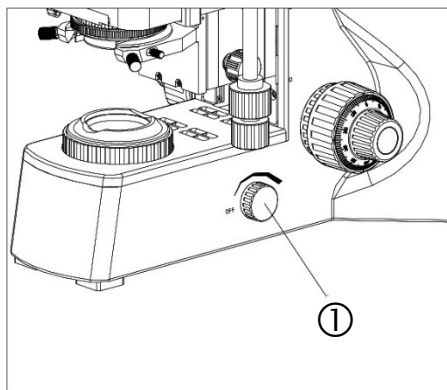

Fig. 10
Turn the transmitted light adjustment knob ① (Fig. 10) until the illumination is comfortable for observation.
Ensure the light adjustment knob ① (Fig. 10) on the right side of the base of the stand is turned to the OFF position.